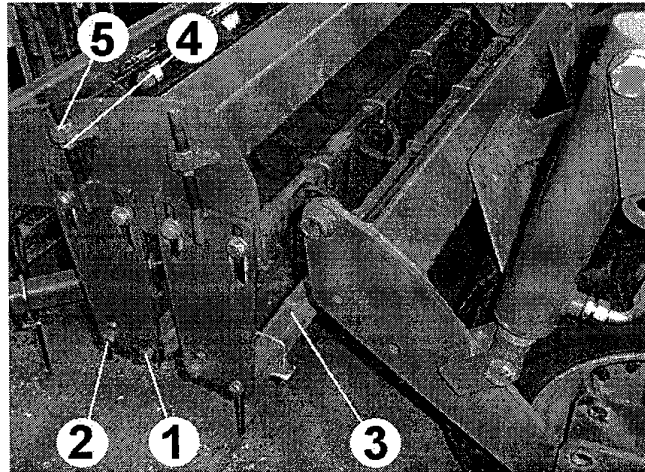

Fig 11
A set of spring tines or 'S' tines are supplied with the machine. The angle and depth at which the tines operate can be adjusted. To adjust the angle, slacken the pivot bolt (item 1, fig 11) and remove the retaining bolt (item, 2, fig 11), pivot the support bar (item 3, fig 11), replace the retaining bolt to give the required angle and finally, re-tighten the pivot bolt (item 1, fig 11). To adjust the depth, slacken the retaining bolts (item 4, fig 11) and turn the adjuster nuts (item, 5, fig 11). Always adjust the support bar (item 3, fig 11) equally.